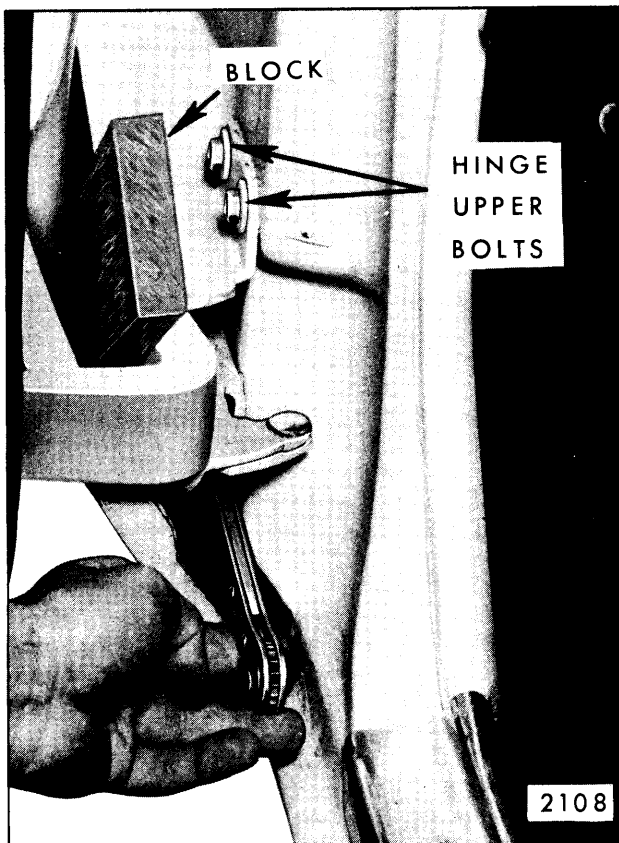

Fig. 6-63—Front Door Hinge Removal - "E" Styles
**NOTE:** On "E" body styles, loosen front fender lower attaching bolts as required to permit usage of a wrench when removing lower hinge lower attaching bolts (Fig. 6-63). Car Division Publications should, however, be referenced prior to any movement of front end sheet metal.
**NOTE:** On all styles except "E" body, removal of door from body with or without hinges attached can be accomplished without loosening front fender. On "E" body styles, removal of lower hinge from body hinge pillar necessitates loosening fender along lower edge (Figure 6-63).